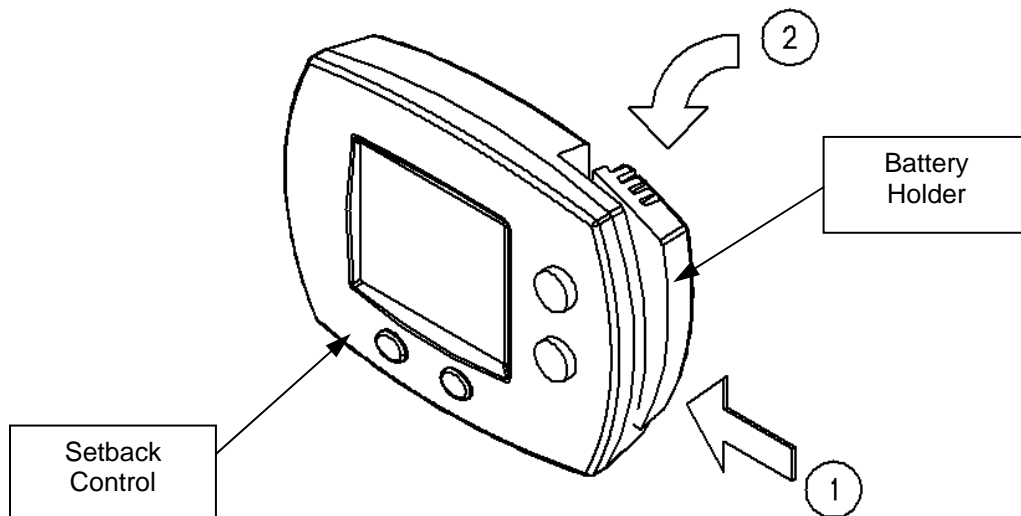

Figure 32
Step 5: Install the Setback Control Battery Holder, just as it was installed prior to Step 3. This is shown in Figure 32.